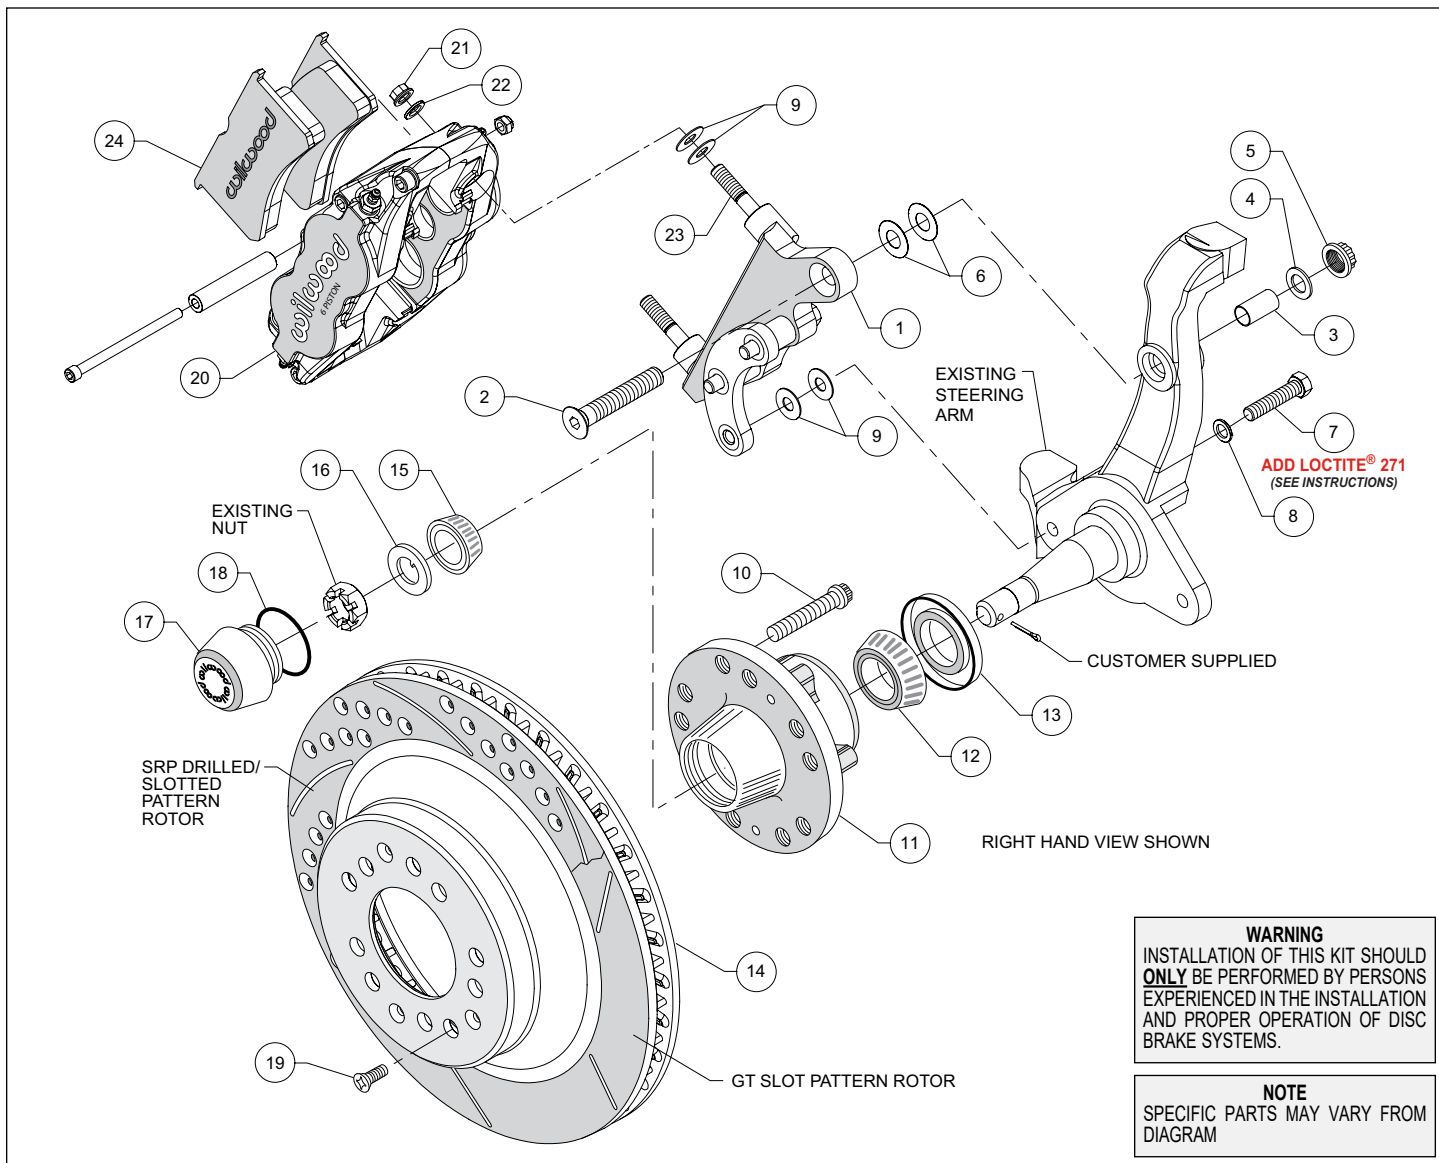
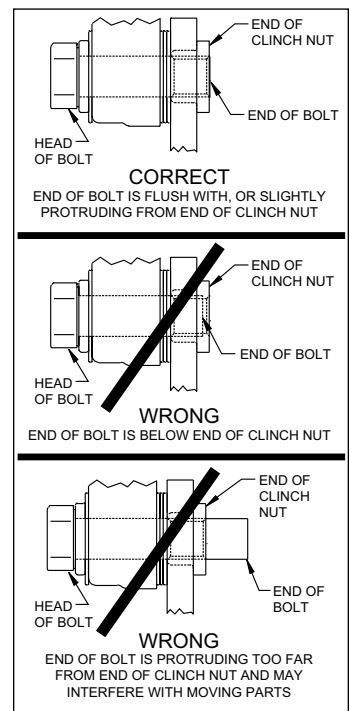

Figure 1. Typical Installation Configuration
Figure 3. Clinch Nut Engagement Diagram
**Assembly Instructions** (numbers in parenthesis refer to the parts list and Figure 1 on the preceding pages): **CAUTION:** All mounting bolts must fully engage clinch nuts. Be sure to check that all bolts are either flush or protruding through flanged side of clinch nut after shimming, Figure 3.
•The caliper bracket (1) should initially be installed with clean, dry threads on the mounting bolts. The bracket has been assembled at the factory for alignment purposes. Loosen the two bolts that secure the brackets together so that the bolts are hand tight only. This will enable the bracket assembly to be adjusted to accommodate various spindle tolerances during assembly. Insert sleeve (3) into top mounting hole on the spindle, Figure 1. Orient the bracket as shown in Figure 1 and install using bolt (2), washer (4), and locknut (5), in the upper hole, as shown in Figure 1 and Photo 1. Initially use two .032" thick shims (6) on the upper bolt between the bracket and spindle, Figure 1. Install bolt (7) and washer (8) in the lower hole, Figure 1. Initially use two .035" thick shims (9) between the bracket and spindle face. Temporarily tighten the mounting bolts, followed by the two bracket-to-bracket bolts. **NOTE:** The bracket must fit squarely against the mounting points on the spindle. Inspect for interference from casting irregularities, machining ridges, burrs, etc. Later, after the bracket and caliper alignment has been checked, the bolts will be secured using red Loctite® 271.
•Check that the bracket (1) is aligned parallel to the rotor (14), Photo 2, by assembling and installing the hub and rotor per the steps below. If not, parallel adjust by adding or subtracting shims (9) on the lower bolt between the spindle and bracket, Figure 1.
•Install wheel studs (10) into the hub (11), Photo 3. Torque to 77 ft-lb. **NOTE:** There are two five lug patterns in the hub (5 x 4.50 and 5 x 4.75). Ensure the correct hub stud pattern is being used to fit the wheel application.
•Pack the large inner bearing cone (12) with high temperature disc brake bearing grease (available from your local auto parts store) and install into the backside of the hub (11), Photo 4.
•Install the grease seal (13) by pressing into the backside of the hub (11), flush with the end of the hub, Photo 4.
•Pack the small outer bearing cone (15) with high temperature disc brake bearing grease and install into hub (11). Slide the hub assembly onto the spindle. Secure using spindle washer
- NOTE:** *This kit contains distinct right and left hand calipers that must be mounted in a specific direction, as described below.* Initially place two .035" thick shims (9) on each stud between the caliper and the bracket, as shown in Figure 1 and Photo 7. Mount the caliper (20) onto the bracket (1) using lock nuts (21) and washers (22), Figure 1. Ensure that the caliper is mounted so the largest pistons are at the rotor exit end of the caliper, in relation to the direction of rotor rotation. Temporarily tighten the lock nuts and view the rotor through the top opening of the caliper. The rotor should be centered in the caliper, Photo 8. If not, adjust by adding or subtracting shims (6 upper bolt, and 9 lower bolt) between the spindle and the caliper bracket. Always add or subtract the same amount of shims on each of the two mounting bolts to keep the bracket parallel to the rotor. **NOTE:** *The end of the lower bolt must be flush with, or slightly protruding from, the head of the clinch nut, as shown in Figure 4.* If necessary place spare shims between washer (8) and spindle to achieve the proper clinch nut engagement.